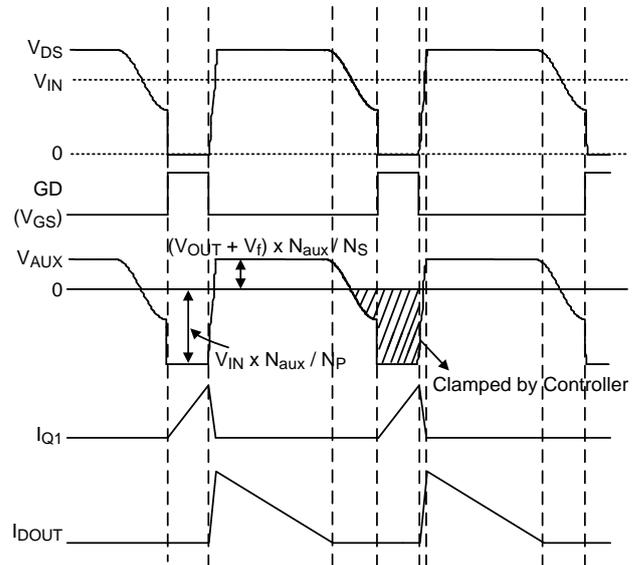

Figure 2. Key Waveforms of a Flyback Converter
The RT7306S needs no shunt regulator and opto-coupler at the secondary side to achieve the output current regulation. Figure 2 shows several key waveforms of a conventional flyback converter in Quasi-Resonant (QR) mode, in which  $V_{AUX}$  is the voltage on the auxiliary winding of the transformer.